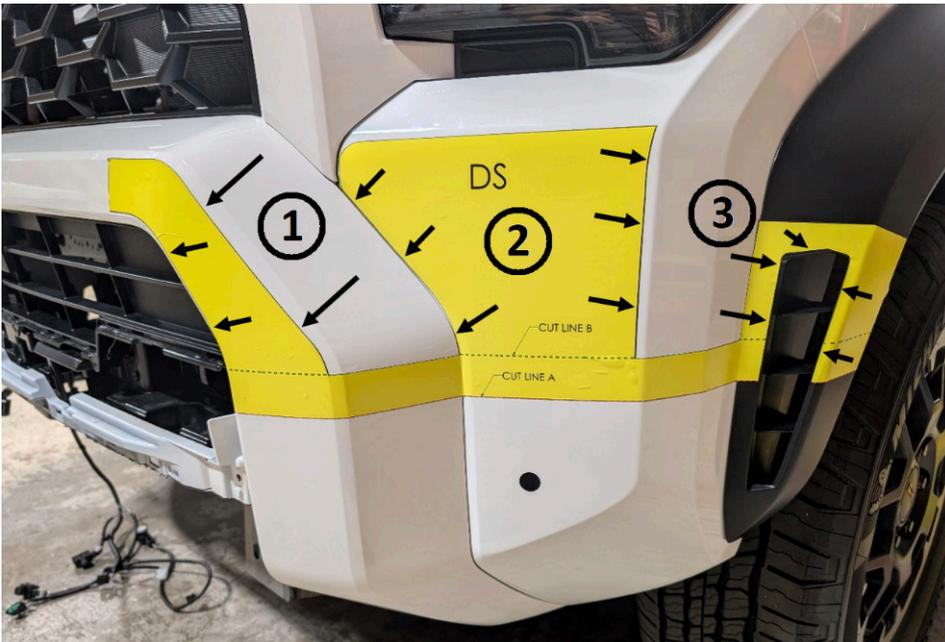

Figure 37
26. Carefully place the provided cut templates onto the DS and PS facia and fenders. Starting with the center contour profile, adhere the template to the facia and work outwards by lining up the edge of the template with the chamfer body lines (1). Next, line the center of the template with the connecting edge and body line (2). Lastly, follow the fender lines cut out to place the template on the fender flares (3). (Figure 37)